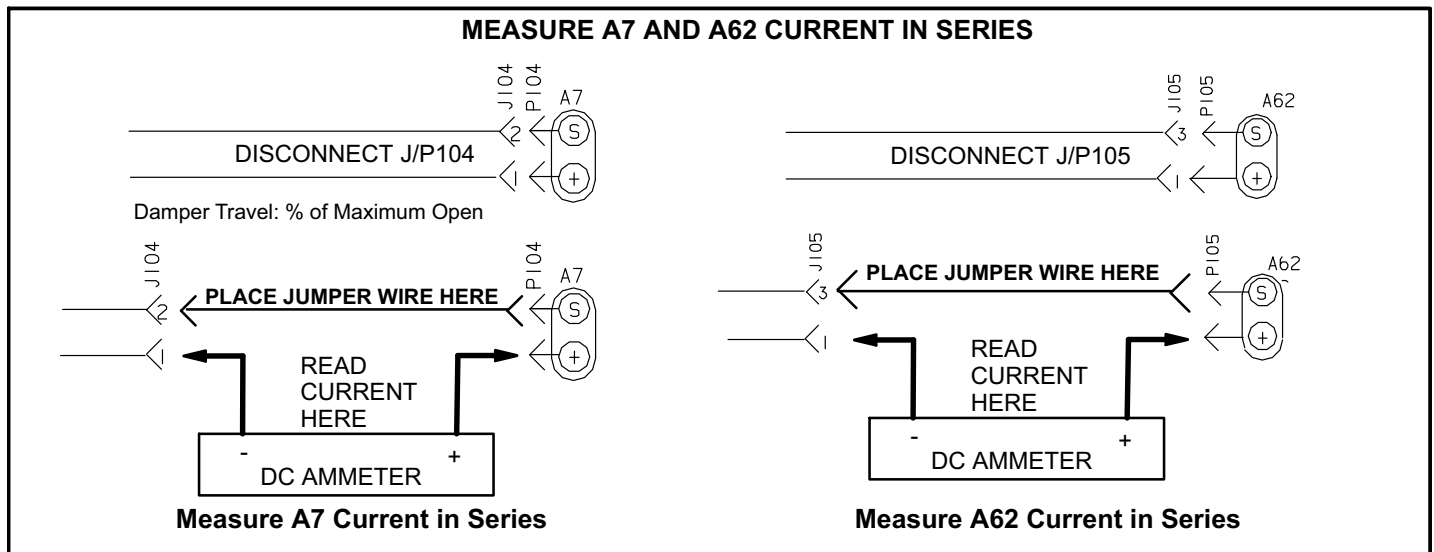

FIGURE 15
- A** Connect a direct current ammeter as shown in figure 15 to measure current output of A7 or A62.